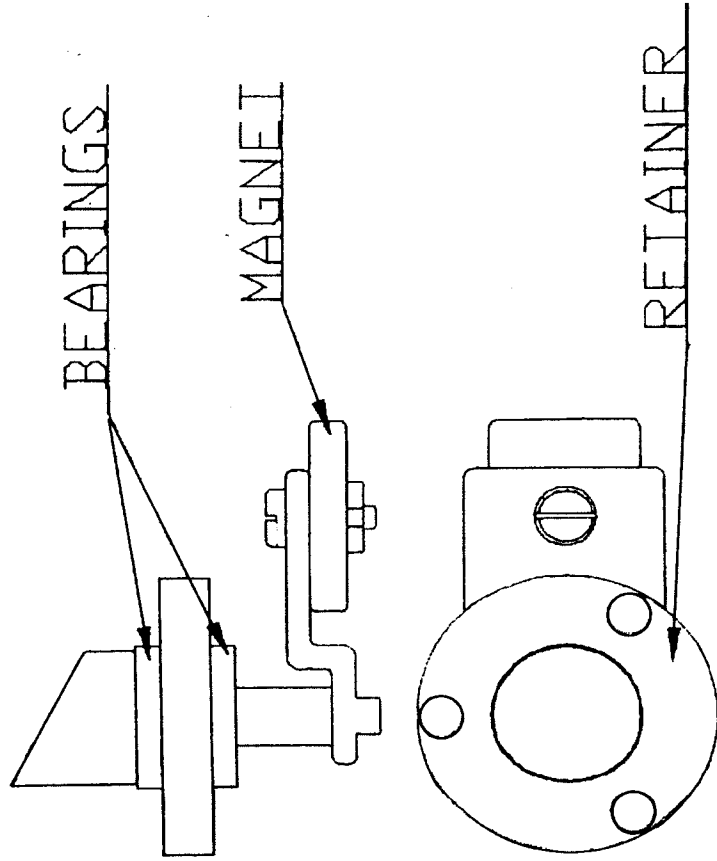

FIGURE 27
1. Install the new MAGNET ASSEMBLY (pictured on Figure 27) by pushing the angled head and bearings into hole from bottom side of PLATTER ARM. With the MAGNET ASSEMBLY held in place rotate the magnet pass the PRINTED CIRCUIT BOARD. The magnet should not touch any components on the PRINTED CIRCUIT BOARD. If magnet touches any components, remove MAGNET ASSEMBLY and loosen nut and slide magnet back slightly. CAUTION: Do not tighten nut on magnet too tight. When nut bottoms out it is tight enough. Repeat this step until magnet clears components. Secure the MAGNET ASSEMBLY